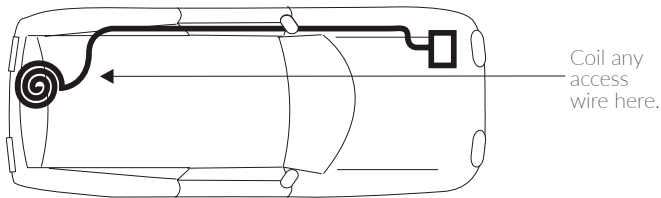

Figure 4-3
- If the harness is too long, coil the extra wire and secure it to the vehicle's front bumper using the wire ties provided. See Figure 4-3. **DO NOT** cut or shorten the harness.